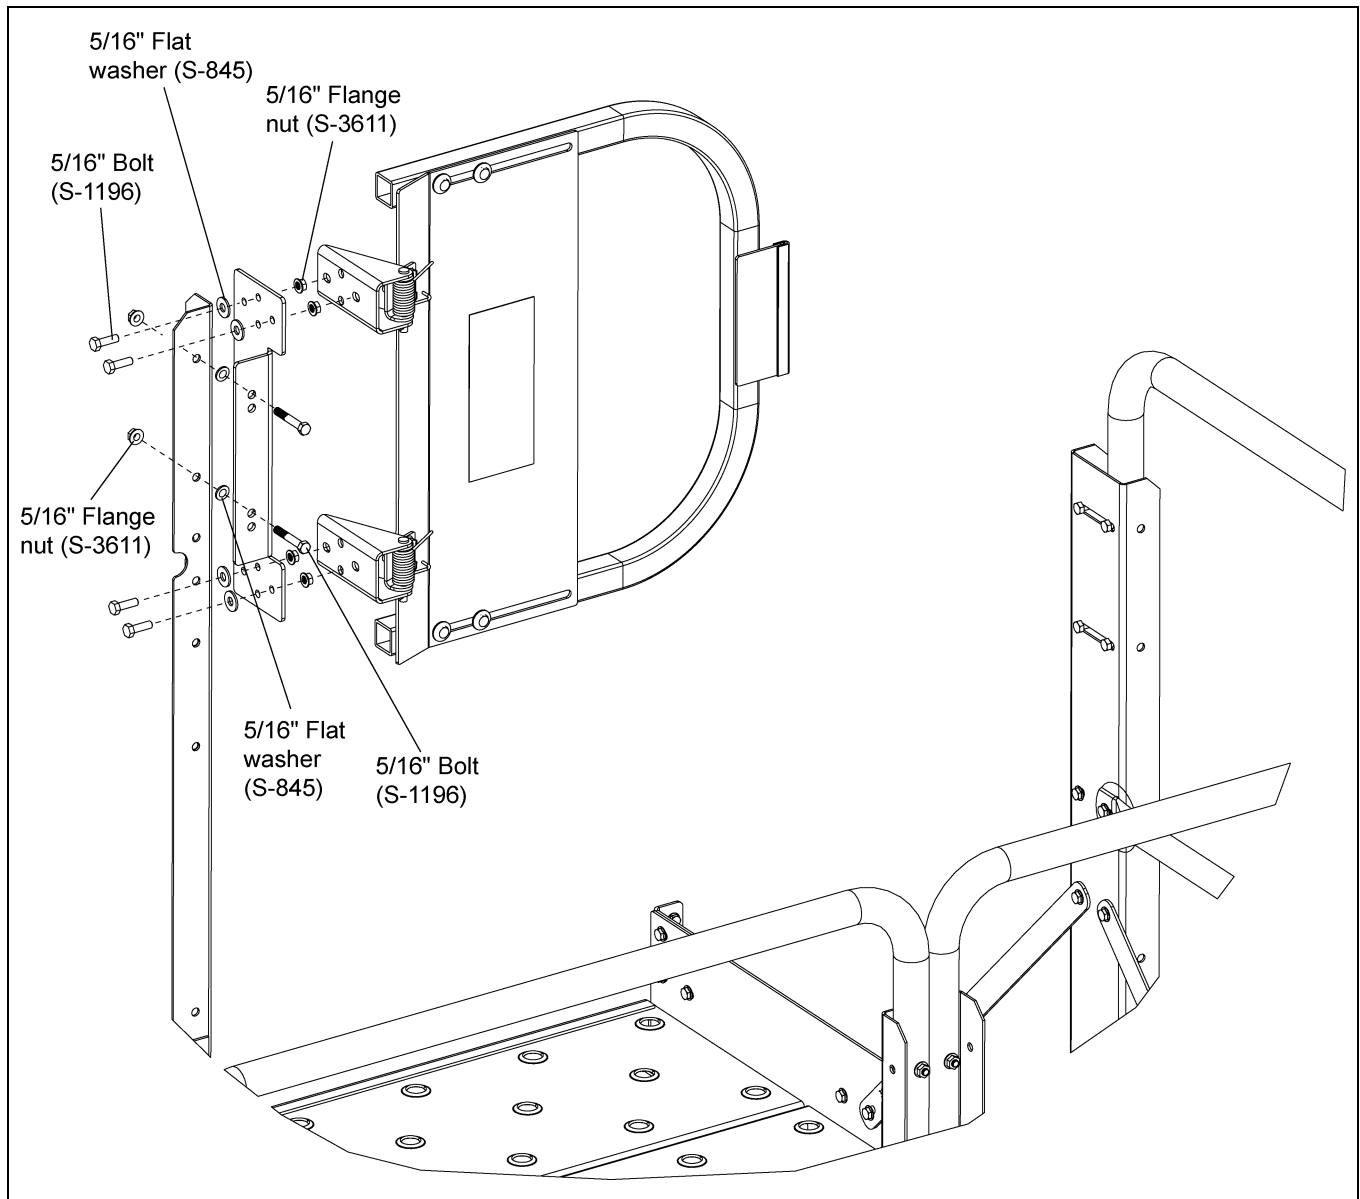

Figure 12L
Attach intermediate platform door bracket to two (2) safety gate side posts (HP1648HP) using 5/16" bolt (S-1196), 5/16" flat washer (S-845) and 5/16" flange nut (S-3611). (See Figure 12L.)